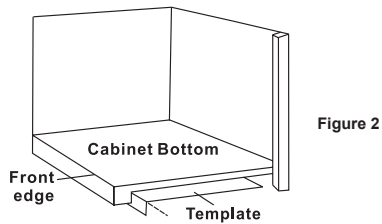

Figure 2
- c) Tape Mounting Template to the underside of the cabinet with the folded portion of the Mounting Template flush up against the cabinet overhang (see Figure 2). Go to STEP 2.